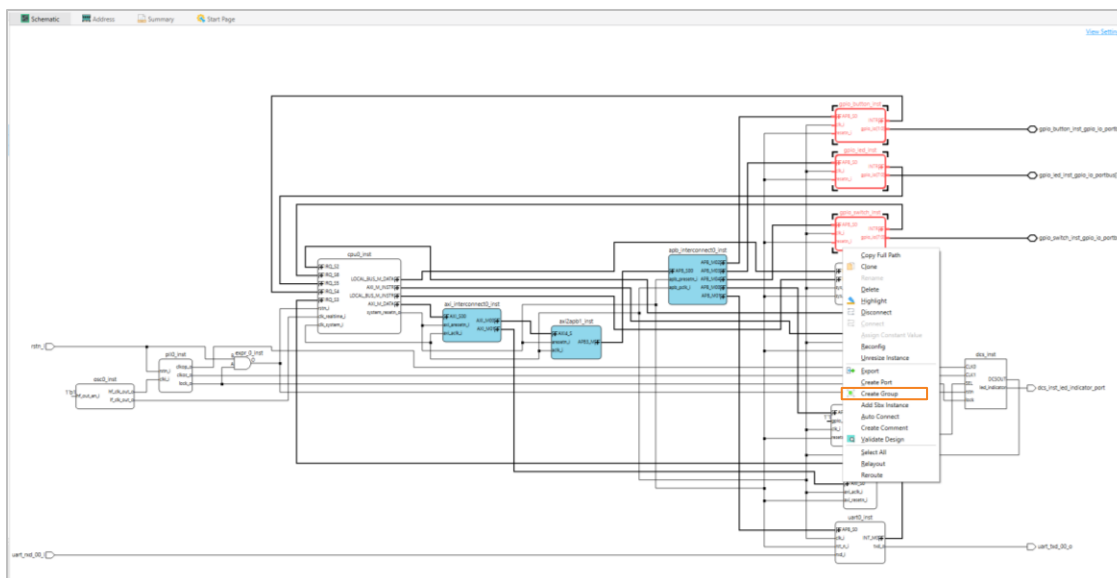

Figure 2.71. Create Group Right-Click Menu
- Support creating group with selected instances. Click on the instances you want to group, and right-click on them, choose **Create Group** (Figure 2.71). You can deselect/select the instances in the dialog. (Figure 2.72)